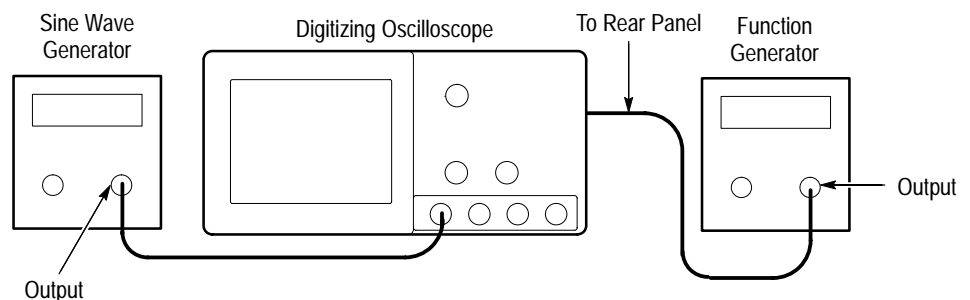

Figure 1–17: Initial Test Hookup
- Move the setup from the **CH 1** input to the **AUX TRIGGER/EXT CLOCK** input on the rear panel of the oscilloscope (see Figure 1–17).